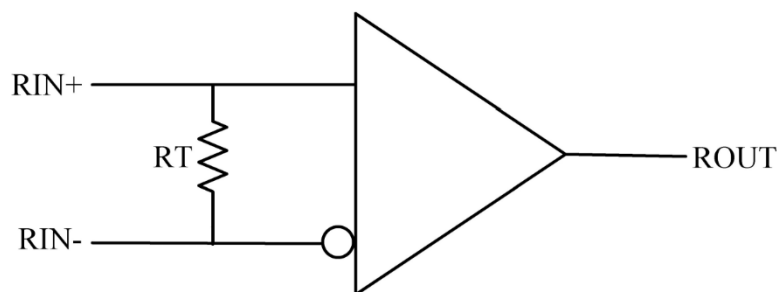

Figure 1. Notional LVDS Receiver diagram
Low Voltage Differential Signaling (LVDS) is a method used to transmit and receive hundreds of megabits per second over differential media using a low voltage signal swing (~350mV). LVDS communications are preformed by a driver and a receiver. The LVDS receiver, see Figure 1, senses a differential voltage across the termination resistor (RT) located across the receiver input terminals (RIN+/RIN-) and outputs a standard CMOS signal (ROUT). LVDS receivers generate their output state based on the direction the current is flowing across the termination resistor.